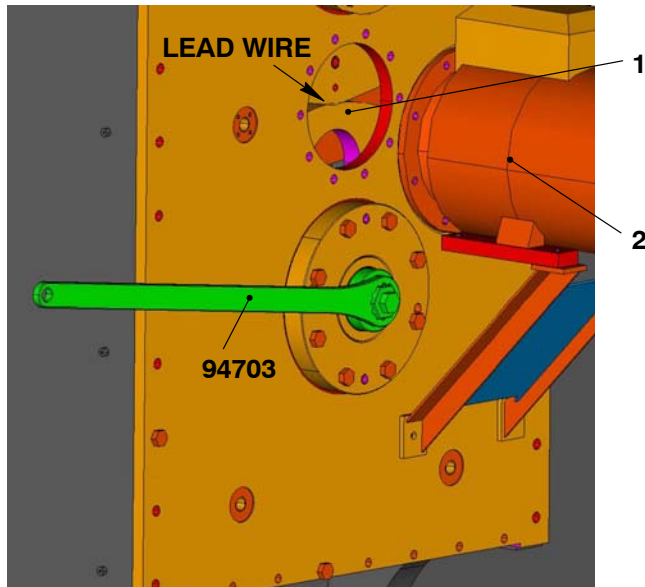

Fig. 14
**Note:** You can get access to the pinion and bottom gear wheel (1, Fig. 14) through a hole at the inner area behind the column.
- 6) Attach lead wire of Pb99.9 fine and a diameter of 1.00 mm between the electric motor pinion (2) and the bottom gear wheel (1).
- 8) Operate the device (94703) to turn the gears. The lead wire moves between the electric motor pinion (2) and the bottom gear wheel (1).
- 10) If the backlash of the bottom gear wheel (1) and the electric motor pinion (2) is in the permitted tolerance, do as follows: